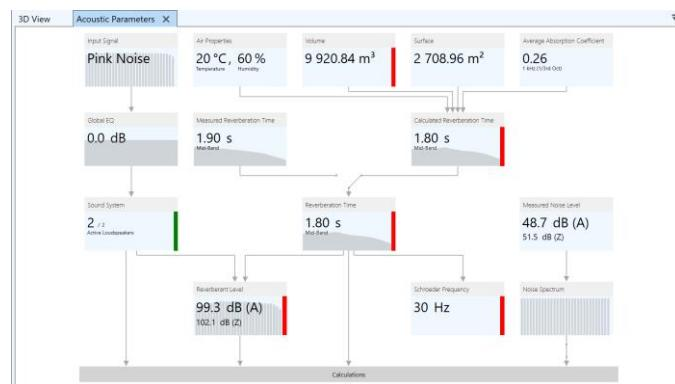

Figure 7.32 Room volume and related indicators are red due to missing or inverted faces.
1. Check the room volume using the VOLUME display in the ACOUSTIC PARAMETERS window (Figure 7.32).